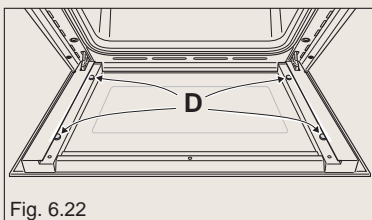

Fig. 6.22
It is advisable, while removing the glass, to keep pressed in position the four rubber pads "D" (fig. 6.22), by a finger, to avoid breakage or slippage of the rubber pads themselves.
1. Make sure the door is locked open (see fig. 6.22).
- * Check that the four rubber pads are in place ("**D**" in fig. 6.22).
It is advisable, while refitting the glass, to keep pressed in position the four rubber pads "**D**", by a finger, to avoid breakage or slippage of the rubber pads themselves (fig. 6.22).